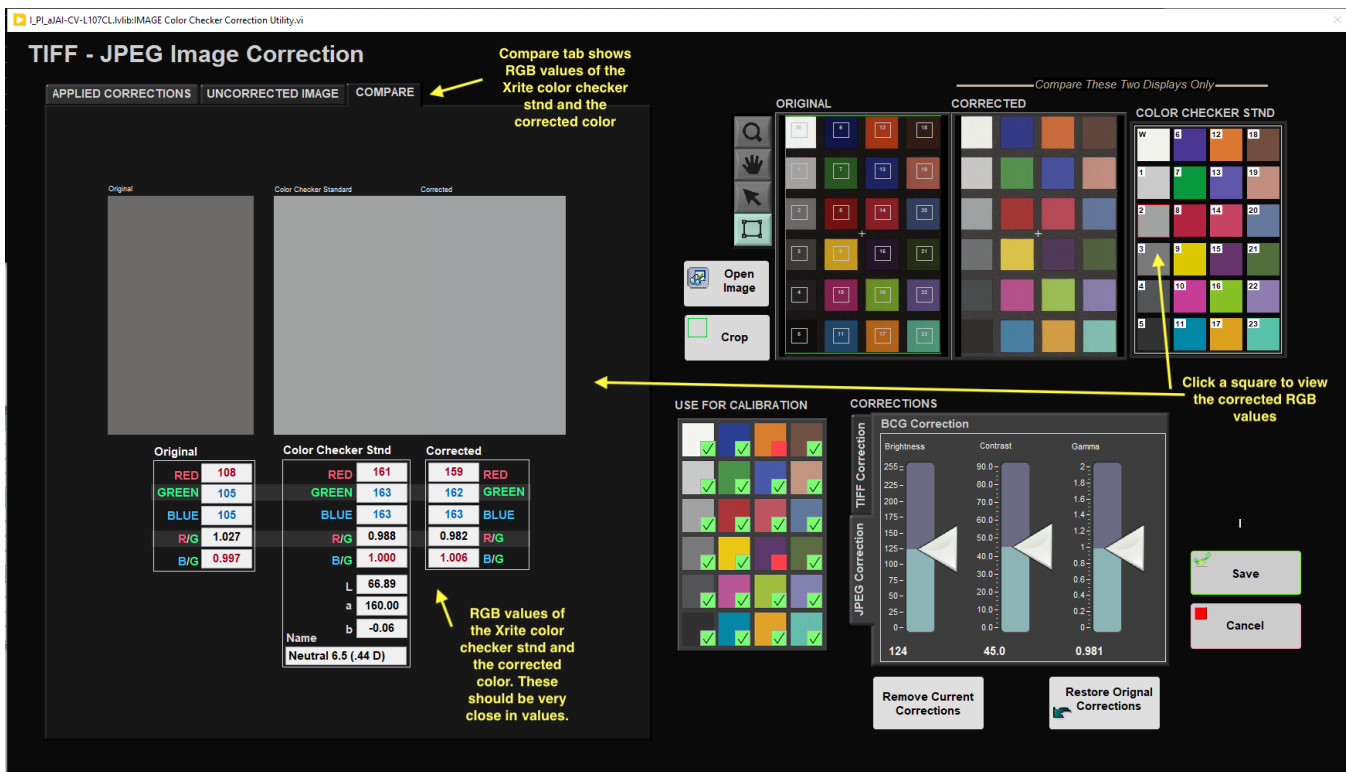

Figure 34. Use the **Compare** tab to view the RGB values for the Xrite color checker and the corrected.
4. In the **Compare** tab check that the corrected color square and Xrite color checker RGB values are very close (Figure 34). Make sure that the white does not exceed the Xrite values (RGB = 240, 242, 235). There is also a visual display so you can see the difference in color for the color checker and the corrected. If you are unable to produce a reasonable correction curve, it is necessary to redo your white balance correction described in the **Calibration** section below.
Note: the TIFF correction is applied to both the TIFF and JPEG image but for the JPEG image you can also apply a Brightness, Contrast and Gamma (BCG) correction (See JPEG Correction section below). This is done at the photographer's discretion. With better balanced LEDs on the new light system you may not have to use the BCG corrections (leave the values at their mid-points). Figure 34).